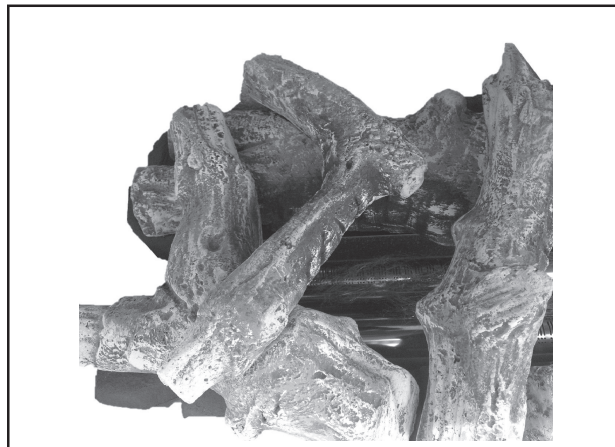

Fig. 11
**11.** Place log '8' on top of log '3' at the front so that it is resting at the rear in the recess in the rear on log '1', Ensure there is a gap between log '8' and log '4' as shown in fig.11.